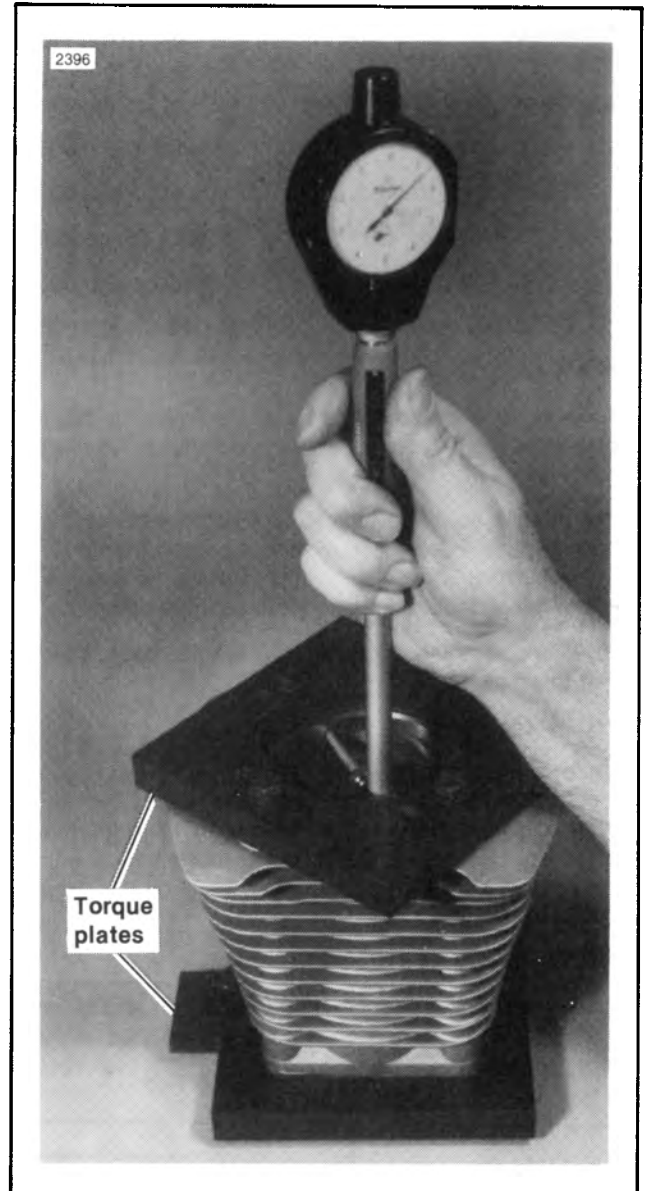

Figure 3-21. Measuring Cylinder Bore
3. See Figure 3-21. Before measuring the cylinder, be sure the gasket surfaces are free of burrs and install a head and base gasket and the CYLINDER TORQUE PLATE, Part No. HD-33446. Tighten the bolts using correct torque procedure. See CYLINDER HEADS, TORQUE procedure. This will simulate engine operating conditions. Your measurements will vary as much as 0.001 in. if you don't use the torque plates.